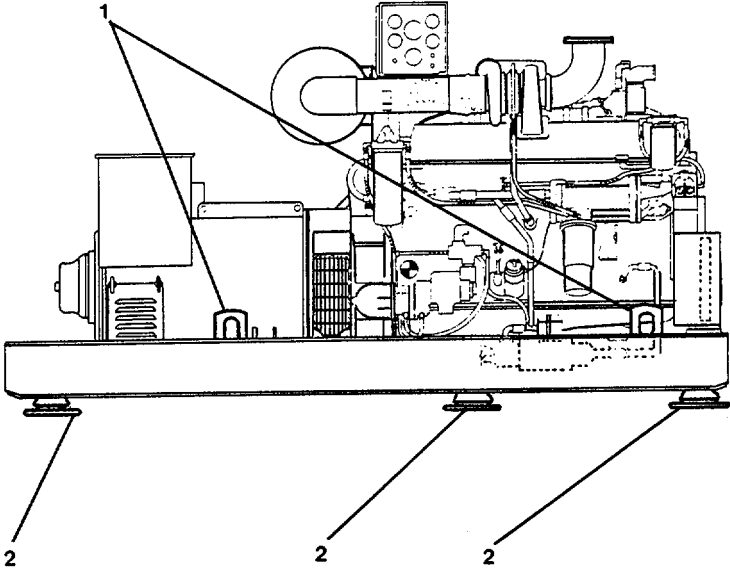

FIGURE 3-1. Lifting Eyes and Mounts.
- (6) Disconnect and tag the turbocharger and exhaust group air piping (paragraph 2-30).
- (7) Disconnect and tag the following lines from the engine:
- d. Attach the lifting fixture (hoist) to the four lifting pad eyes (1, Figure 3-1) provided on the generator subbase (two on each side).
- e. Remove the subbase mounting nuts at the six resilient mount (2) locations (three on each side).